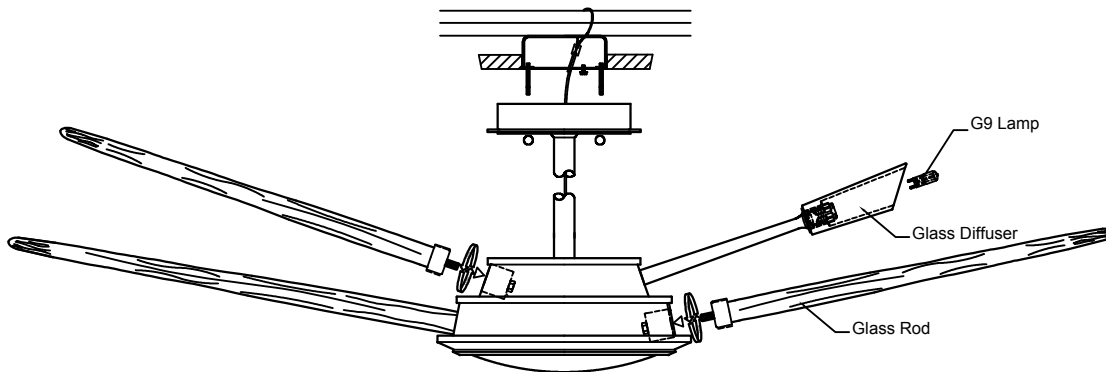

FIGURE-3
10. For Glass Rod installation: Place the glass rod according to schedule seen in the following page. Carefully turn rod to lock. (See Figure-3)